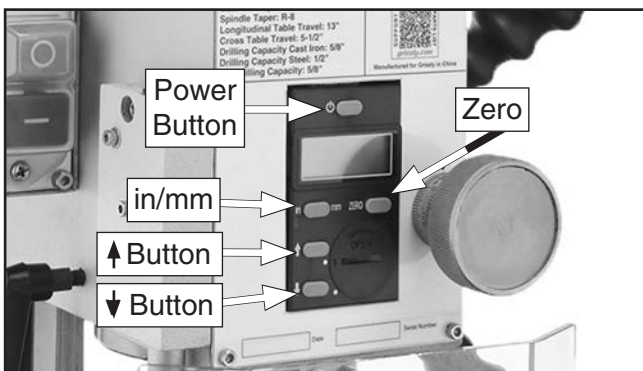

Figure 19. Identification of DRO controls.
1. Press Power/⏻ button (see **Figure 19**). A reading should appear on display.